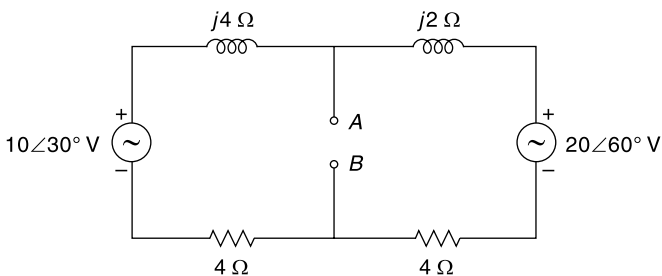

Fig. 6.41
9. In the network of Fig. 6.41 find Norton's equivalent circuit across AB .